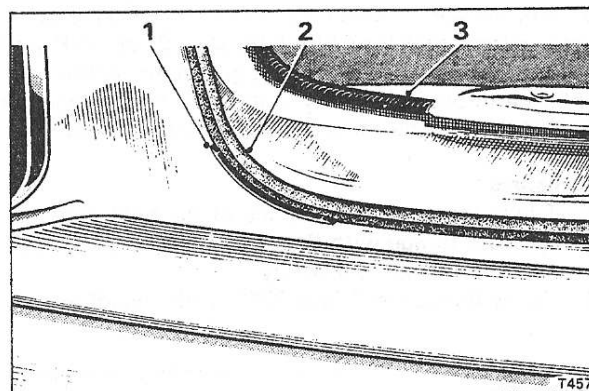

Fig. S38 Luggage compartment lid seals (Silver Shadow II, Bentley T2 and Silver Wraith II)
2. Remove the small sealing strip from the inner rim of the lid aperture (see Fig. S38, item 3).
channel (see Fig. S38, item 1). Allow between 10 and 15 minutes for the adhesive to partly dry.